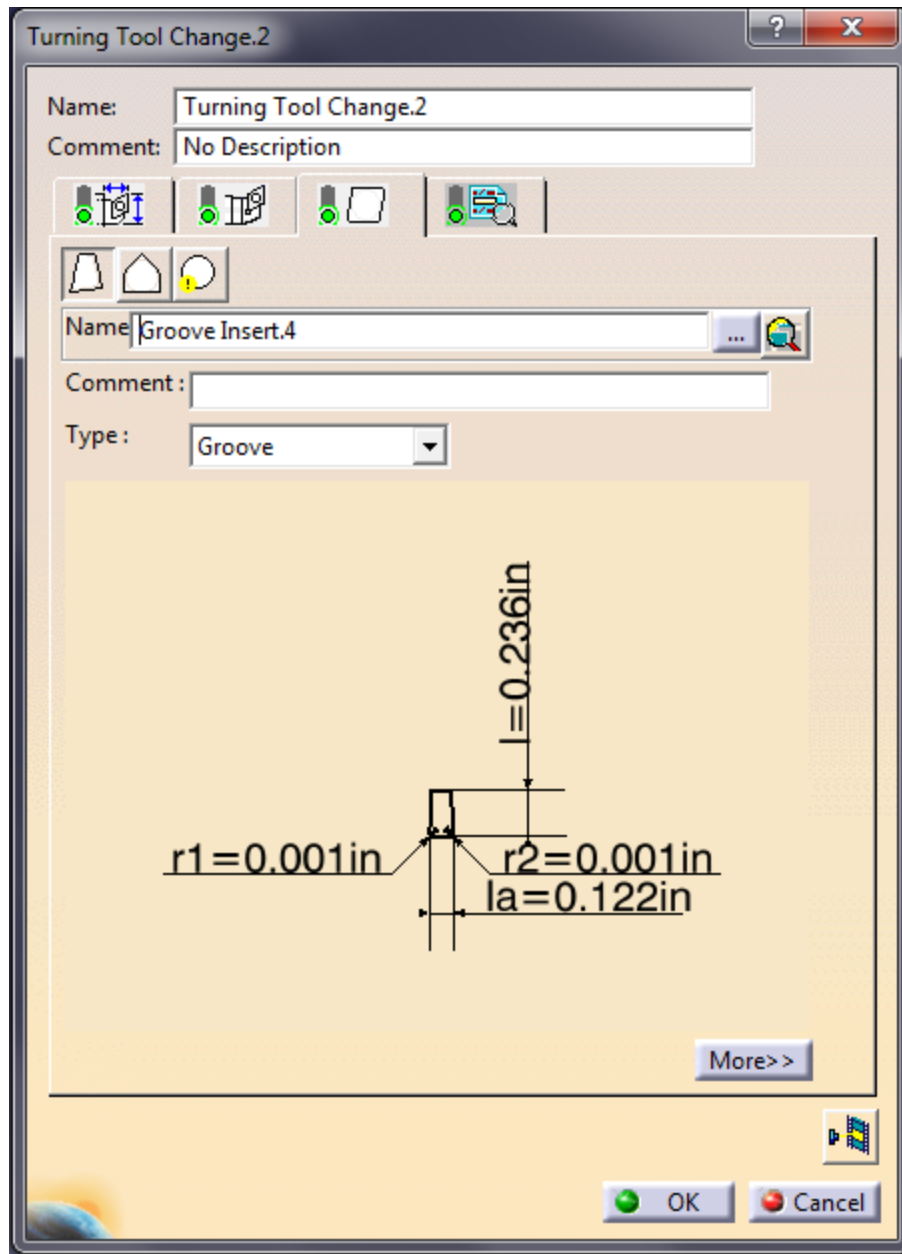

Figure 10. Groove insert dimensions
- ii. Specify insert as seen in Figure 10